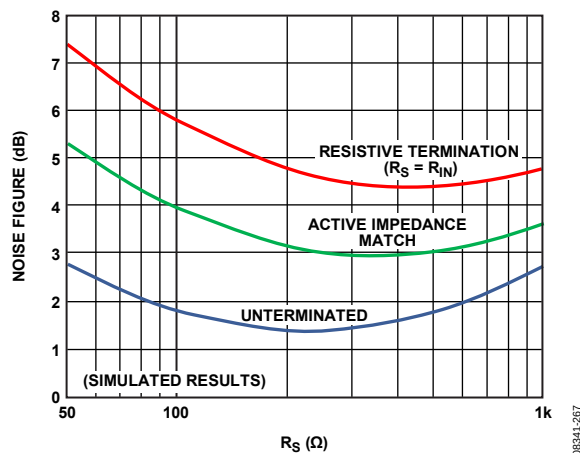

Figure 67. Noise Figure vs.  $R_S$  for Resistive, Active Match, and Unterminated Inputs
The primary purpose of input impedance matching is to optimize the input signal power transfer. With resistive termination, the input noise increases due to the thermal noise of the terminating resistor and the increased contribution of the input voltage noise generator of the LNA. With active impedance matching, however, the contributions of both are smaller than they are for resistive termination by a factor of  $1/(1 + \frac{1}{2} \text{ LNA gain})$ . The noise figure (NF) for the three terminating schemes is shown in Figure 67.